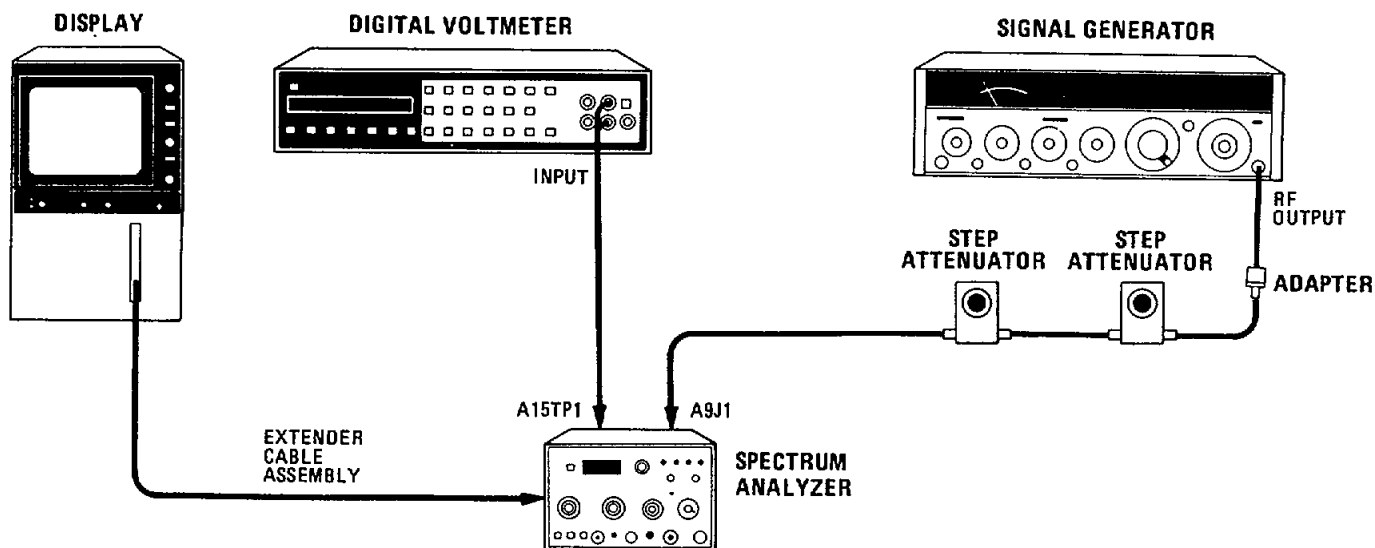

Figure 5-13. Log Amplifier and Linear Adjustment Test Setup
2. Connect equipment as shown in Figure 5-13. Set 1-dB step attenuator to 10 dB. Set signal generator frequency to 301.4 MHz and OUTPUT LEVEL to -13 dBm. Remove W7 from A9J1. Connect signal generator output through step attenuators and test cable to A9J 1.